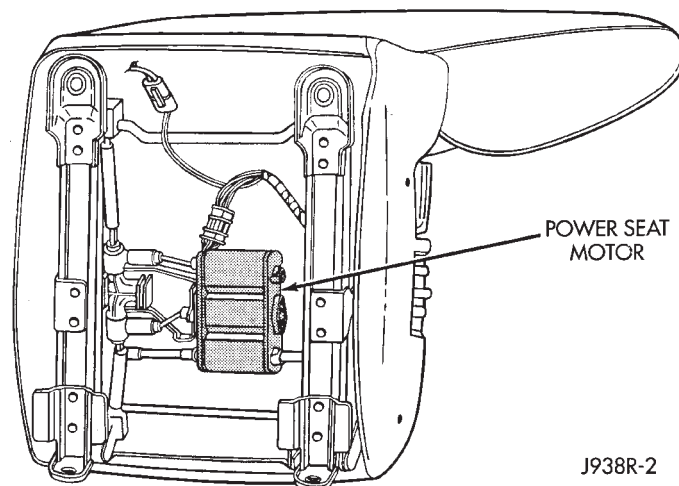

Fig. 4 Power Bucket Seat Wire Harness Connector
- (1) Remove 4 bolts retaining seat.
- (2) For power seats, disconnect wire harness connector (Fig. 4)
- (3) Remove seat from floor panel.
- (3) For power seats, connect wire harness connector (Fig. 4).